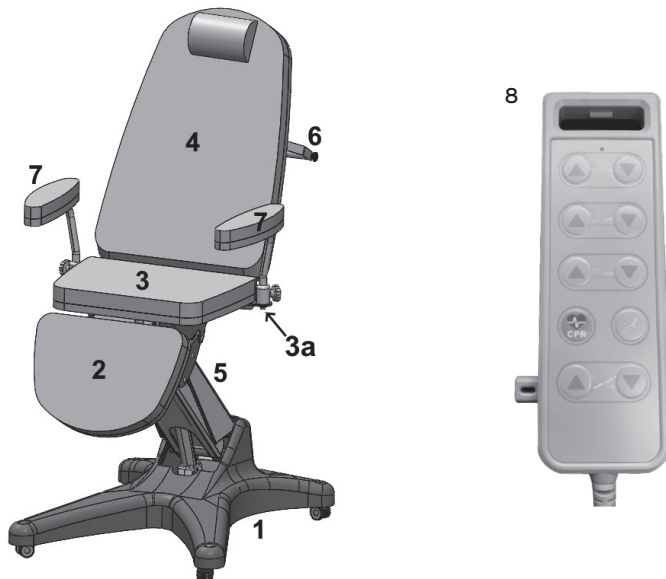

Fig.1
- Install the roll holder (ref.6 in fig. 1, 2, 3) on the back of the backrest, in the 4 holes provided (2 on each side) using the screws supplied. (Note: for some models the roll holder is already pre-installed).
- For PM100 and PM120 models: install the padded armrests (ref.7 in fig. 1 and 2) with the provided handwheel on the appropriate support bushing (ref.3a in fig.1 and 2).